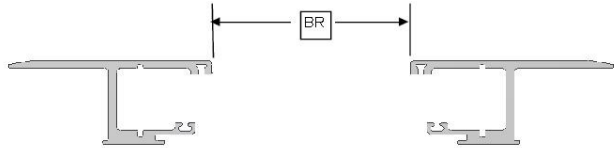

FIG. 6A
Finally, check for proper spacing by measuring between the rails at the canister and the tailgate end of the rails (Fig 6A). The measurement should be equal to or less than those in Fig 6B. The Rail Brackets and Shims have been pre-installed to achieve the proper Between the Rail dimensions (BR) when placed on an average factory truck bed. However, not all truck beds are average dimensionally and some have optional plastic caps or over the rail spray-in bedliners.
Run the adjusting bolt inward toward the bed wall, putting some pressure on the foot. Continue running the bolt inward using the knob until the rail is visually level. The adjusting bolt can be removed and the base flipped 180 degrees to adjust for varying clearance with the bed wall (FIG. 7D). Verify the BTR dimension after the rails are leveled (STEP 6, FIG 6A & 6B).